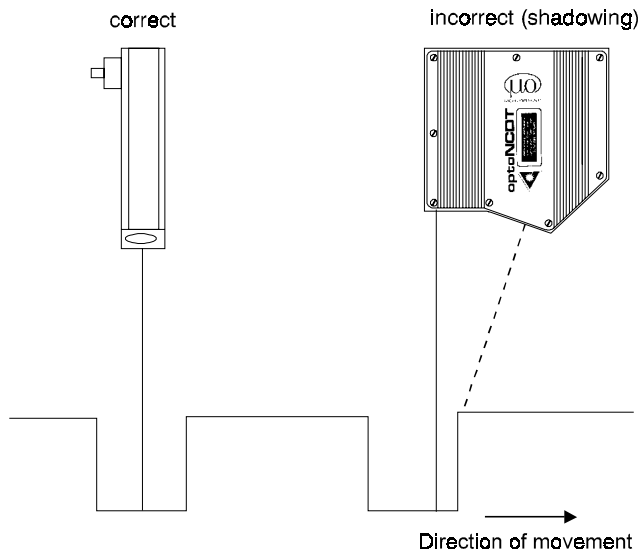

Fig. 6.4: Sensor arrangement for holes and ridges
- In case of bore holes, blind holes, and edges in the surface of moving targets the sensor must be arranged in such a way that the edges do not obscure the laser spot (fig. 6.4).